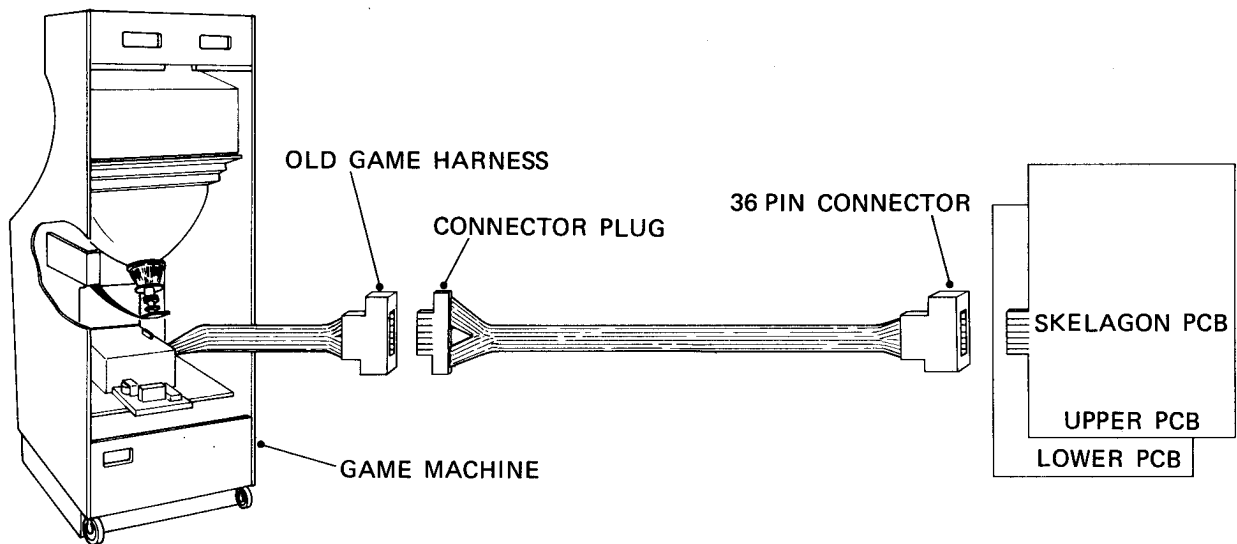

FIGURE 2
- 3) Connect the connector-plug and 36-pin connector of SKELAGON with wires. (FIGURE 2)